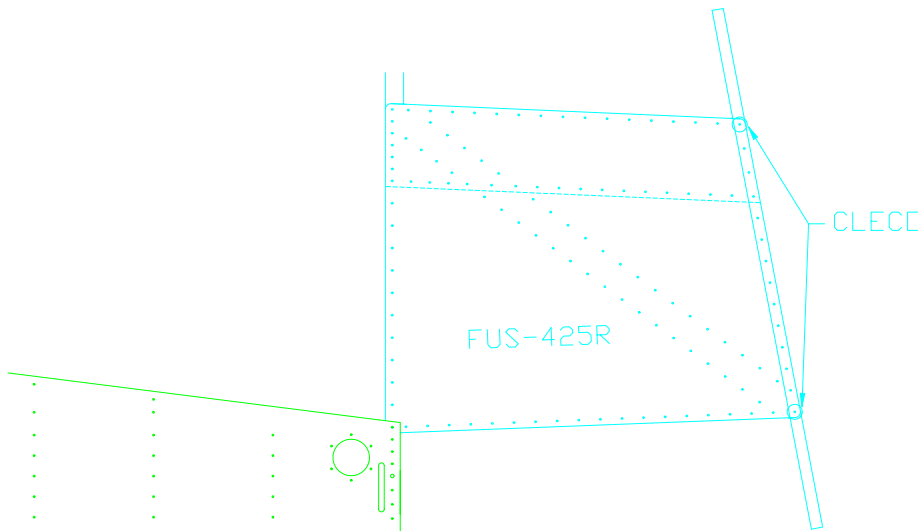

Figure 9.19.6
- 9) Draw a center line on the outside surface of the four straight flanges of the Firewall and cleco it to the forward side skins. Figure 9.19.6. Note: all holes in the firewall flanges must be dimpled, and the final assemblies riveted to these flanges with RV-4412 flush rivets. This is to allow fitting of the cowling.